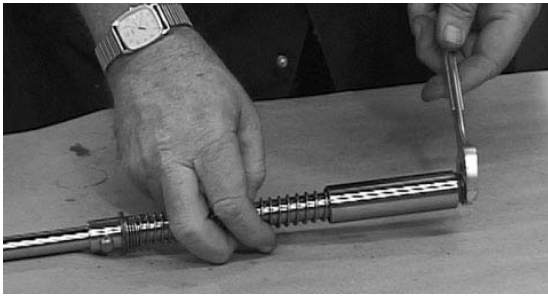

Figure 8-16. Elastic Nut and Valve Stem
1. Place the Valve Stem (11) and the assembled components on a clean, level surface.
2. Holding the Valve Stem (11) at its flats with a ½-inch open-end wrench, as shown in Figure 8-16, use a 7/8-inch wrench to loosen the Elastic Nut (3).